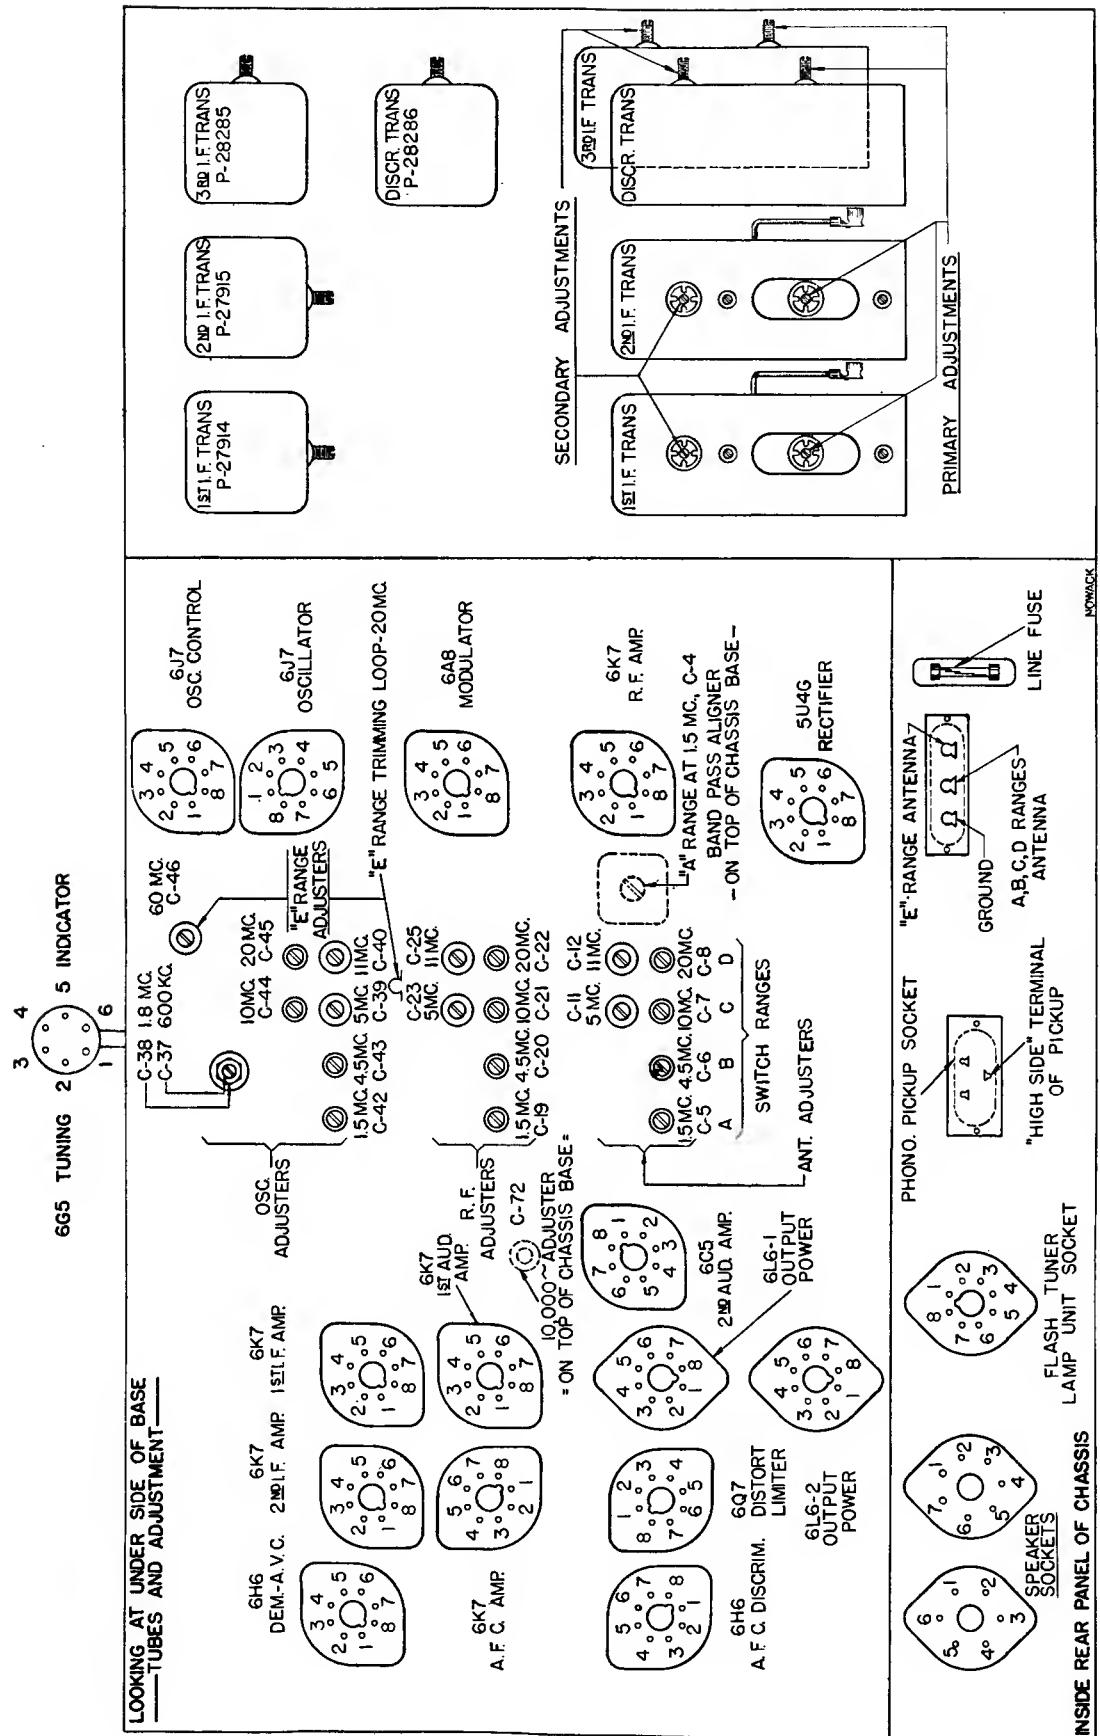

Fig. 1. Terminal Layout for Voltage Measurement Chart and Location of the Various Aligning Adjustments.
The various values of voltages listed in the following table are obtained by measuring between the various tube socket contacts and the chassis base, with the tubes in their respective sockets. The receiver is, therefore, in operation when the measurements are made. Figure 1, shows the terminal layout of the sockets with the proper terminal numbers.
Before proceeding with the alignment of any circuits in these receivers, except when specifically directed, be sure that the Fidelity Control knob is set for the "Normal" position and that the Automatic Frequency Control knob is set to the "Off" position. The "Off-On-Bass-Phonograph" Control should also be set for the "Normal" position. In making any alignment adjustments always adjust the test oscillator's output voltage to the minimum value where a good alignment may still be obtained, except when specifically directed in these instructions. Figure 1, shows the location of all the aligning capacitors or adjustments for these receivers. It will not be necessary to remove the chassis from its cabinet in order to make any alignment adjustments. The alignment adjustments for the Intermediate Frequency circuits are accessible from the rear of the receiver, and the adjustments for the Radio Frequency circuits are accessible through the apertures located in the bottom metal base plate of the chassis. These apertures are easily accessible through the bottom of the cabinet shelf. Never align any of these receivers without having the metal base plate fastened to the chassis base.
3. Now, noting from Figure 1, the alignment adjustments for the I. F. circuits proceed in the following order: